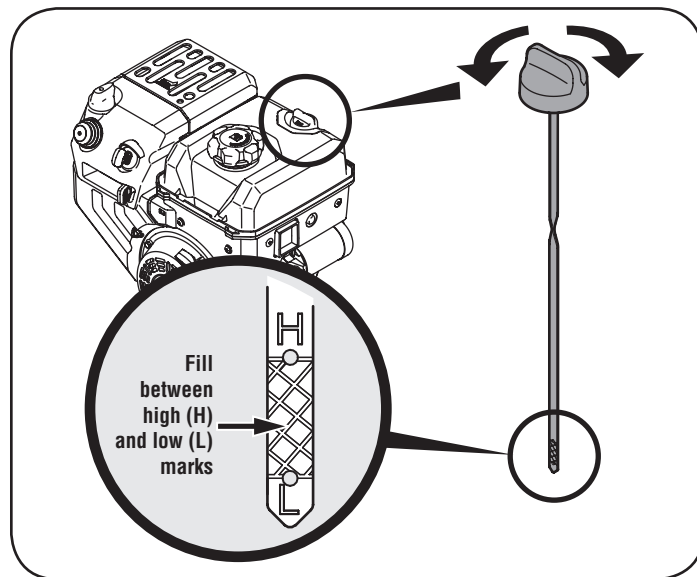

Figure 5
1. Remove the oil filler cap/dipstick and wipe the dipstick clean. See Figure 5.
3. Remove the oil filler cap/dipstick. If the level is low, slowly add oil until oil level registers between high (H) and low (L). See Figure 5. Refer to the Engine Maintenance section for correct oil viscosity and engine oil capacity.